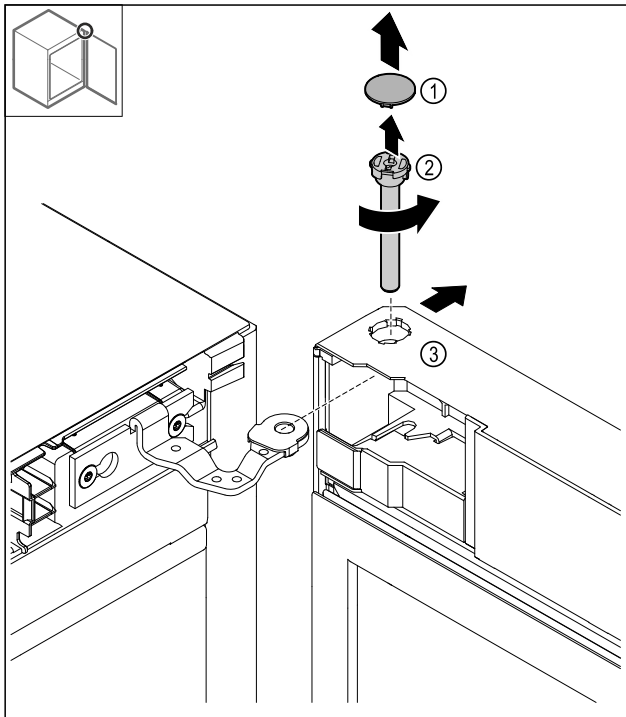

Fig. 20
- Take off the Fig. 20 (1) cover.
- Unscrew the pin Fig. 20 (2) counterclockwise and pull it out.
- Tilt the door Fig. 20 (3) slightly.